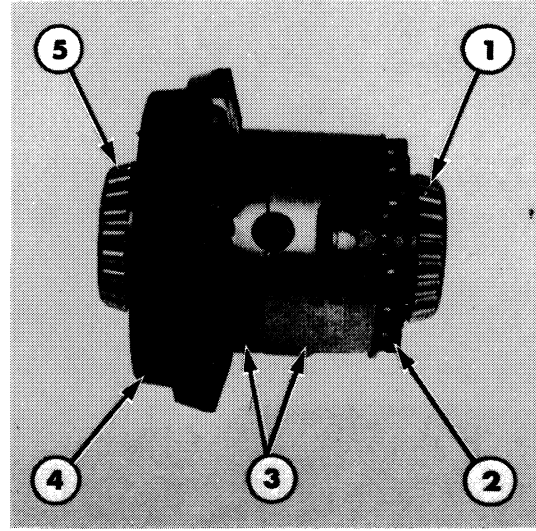

Figure 21
1. Remove the differential case securing bolts, Figure 21. Separate the two halves of the differential assembly.